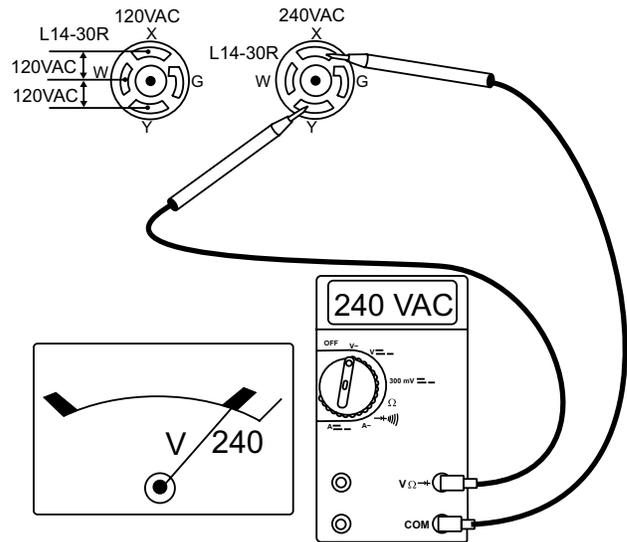

Figure 25. 120/240V L14-30R Receptacle
- Read voltmeter on front panel of generator (Figure 25) and verify that 240 VAC is displayed. Using an external voltmeter as shown in Figure 25, verify that 240 VAC is